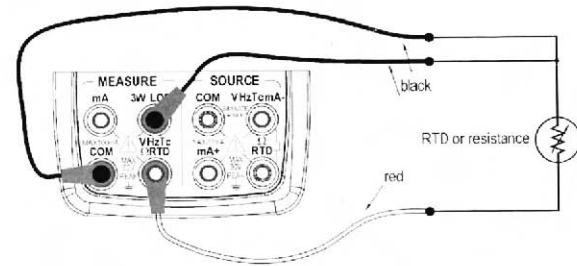

Figure 14 RTD signal with 3w method
Three wire connection method for RTD signal (Figure 14)
Step 3: Connect the lead cables for measurement to the measuring terminals of the measuring instrument under test as shown in Figure 14.